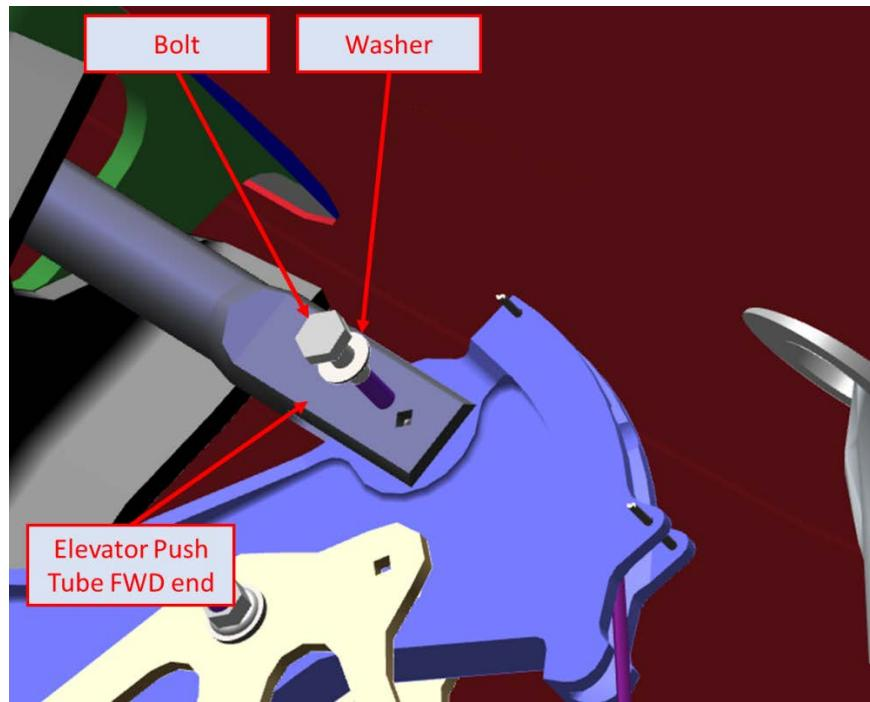

Figure 5: Push tube to Pitch Control inside the tail
1. Remove aft plastic plug on left side of the horizontal/vertical tail to access the aft pitch sector assembly, Figure 5.
2. Disconnect elevator push tube at control horn and aft pitch sector and retain the hardware, Figure 5 and 6.
8. Install the elevator push tube in the tail with retained bolt (AN3C7A) and washer (NAS1149C0332R). Apply Tef-Gel to bolt threads. Torque to 26 inch-lbs. and apply torque stripe, Figure 5.